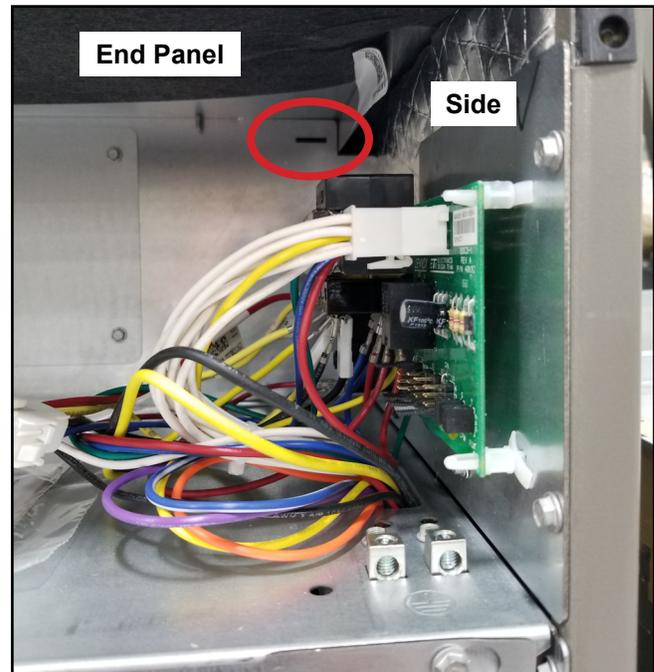

Figure 11. Electrical Connections (Upflow Configuration)
2. Slide the control panel into the notch on the electric heat mounting panel (Figure 11). Using the screws removed in Step 1, secure the control panel to the end panel.